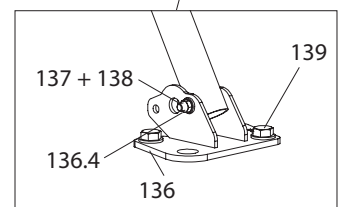

Fig. A15.04c
4. Fit the inner tube (135.2) onto the rear hole (136.4) of the base plate by means of bolts (137) and nuts (138). (Fig. A15.04c)
5. Fix Base Plate EWB (136) to the substrate.